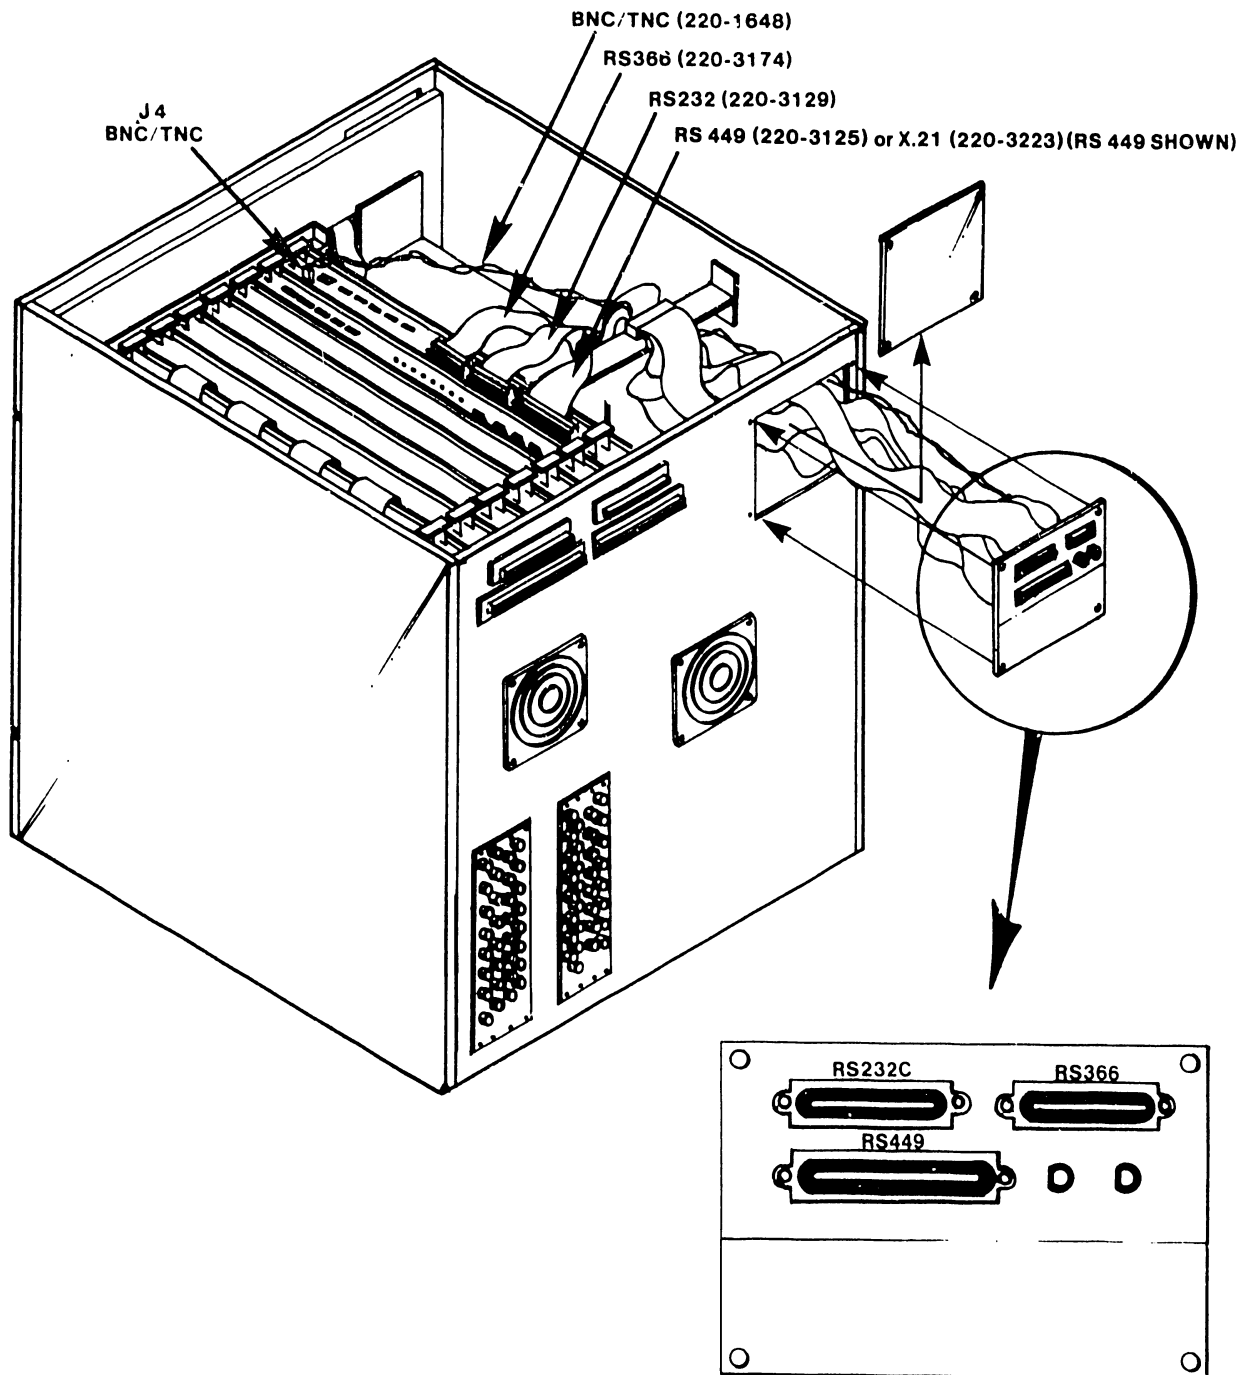

Figure 4-8 Rear Cover Plate Removal/TC Rear Panel Installation (140/145)
Remove the existing rear plate by loosening four machine screws that secure it to the rear of the master unit. Pull the rear cover plate away from the unit (Figure 4-8).
1. Route the one or two 20-inch flat interface cables and the BNC/TNC connector cable (not the 32" external cable), through the opening created by the removal of the rear cover plate (Figure 4-8).